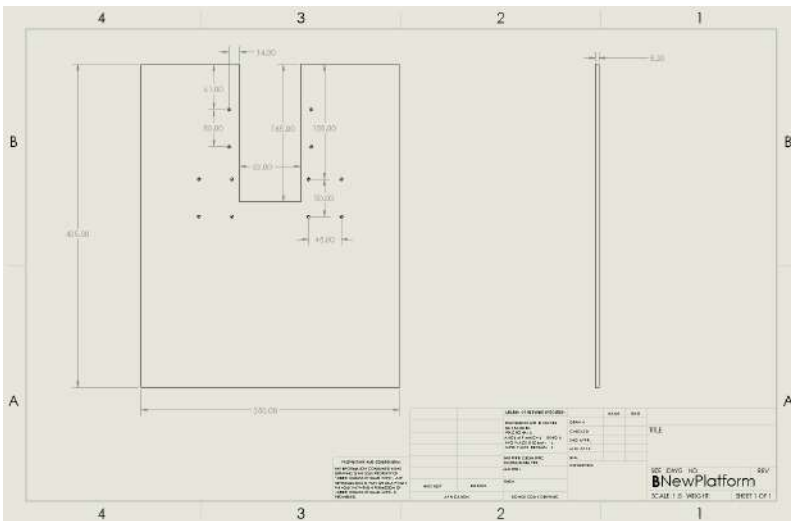

Figure 11: Phantom Bed drawing
2. Using a bandsaw, cut a 83mm by 185mm rectangle from the center of the 350mm side, as illustrated in figure 11.
3. Using a drill press, drill 12 M4 holes according to the drawing illustrated in figure 11.